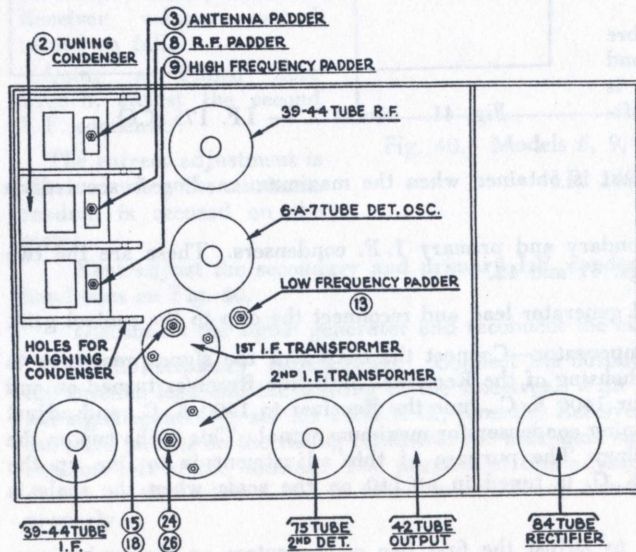

Fig. 43. Model 10 — I.F. 260 K.C.
H.F. There are four holes in line, one in each of the sections of the tuning condenser housing. (See Fig 43) Place a nail of the size that fits snugly through the holes and then turn the condenser plates out of mesh until they strike against the nail.
Set up the signal generator and adjust it to exact 260 K. C. Connect signal generator lead to the grid cap of the 6A7 tube. (See Fig. 43). The output meter must be connected by means of an adapter to the speaker prong of the speaker and to the chassis.
The condensers 24 and 15 are adjusted first (Fig. 43). Turn the adjusting screws all the way in. A metal screw driver can be used for this. Then, with generator attenuator set so there